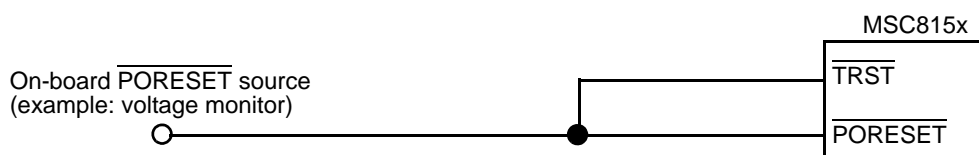

**Figure 34. Supply Ramp-Up Sequence**
- After the above rails rise to 90% of their nominal voltage, the following I/O power rails may rise in any sequence (see Figure 34): QVDD, NVDD, GVDD1, and GVDD2.